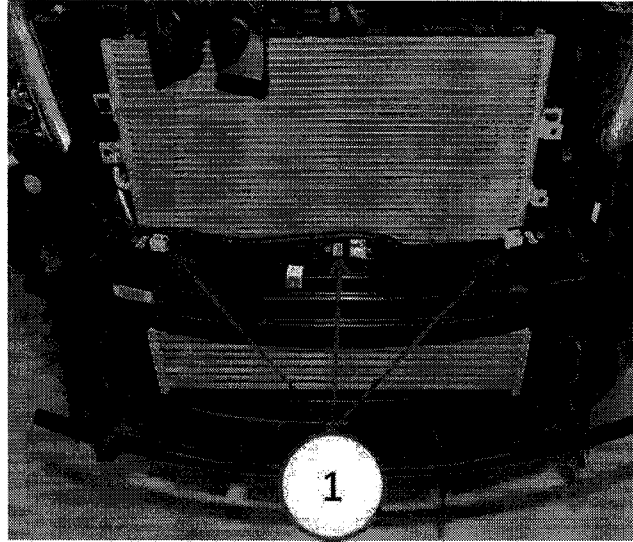
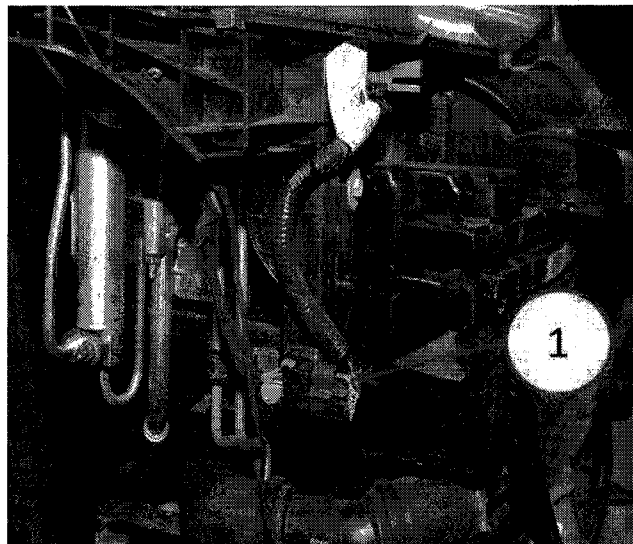

Fig. 1 Pedestrian Protection Sensor Jumper Harness
Fig. 2 FEM Harness
4. Un-install the Pedestrian Protection Sensor jumper harness from front bumper beam(Fig. 1). Disconnect from pedestrian protection bumper mounted acceleration sensors and FEM harness.(Fig. 2).